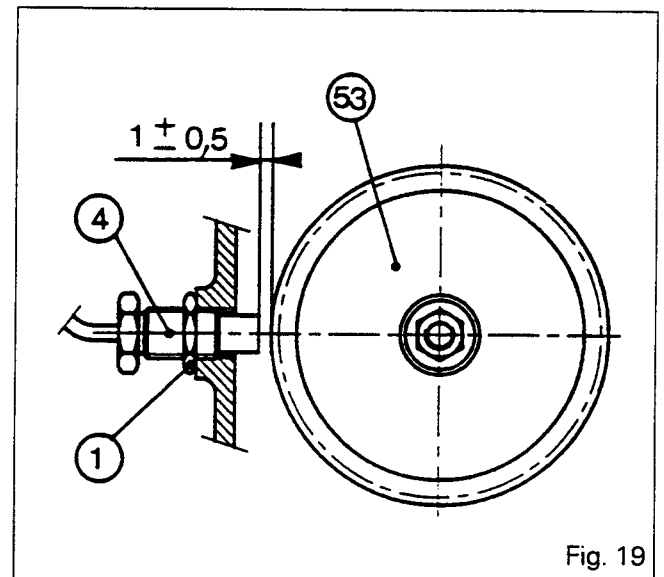

Fig. 19
106. Unscrew the sensor 3/4 of a turn to provide clearance of approx. 1 mm between the sensor (4) and the gear (53). Tighten the nut (1) to a torque of 18-20 Nm (Fig. 19).